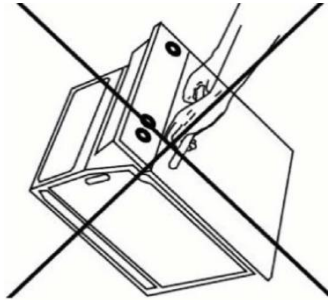

Figure 15
- Do not use the oven door handle to move the appliance, such as to remove it from the packaging. **(See Figure 15)**